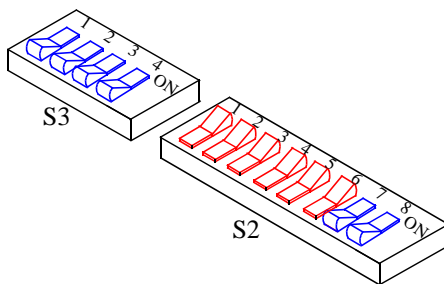

Figure 7-11 OLD HSDB SWITCH SETTINGS
1. Switch settings on the MPC for single-ended 5V (old style) operation are shown in Figure 7-11. S002 Sections 1-6 Off; 7, 8 On. S003 all sections On.